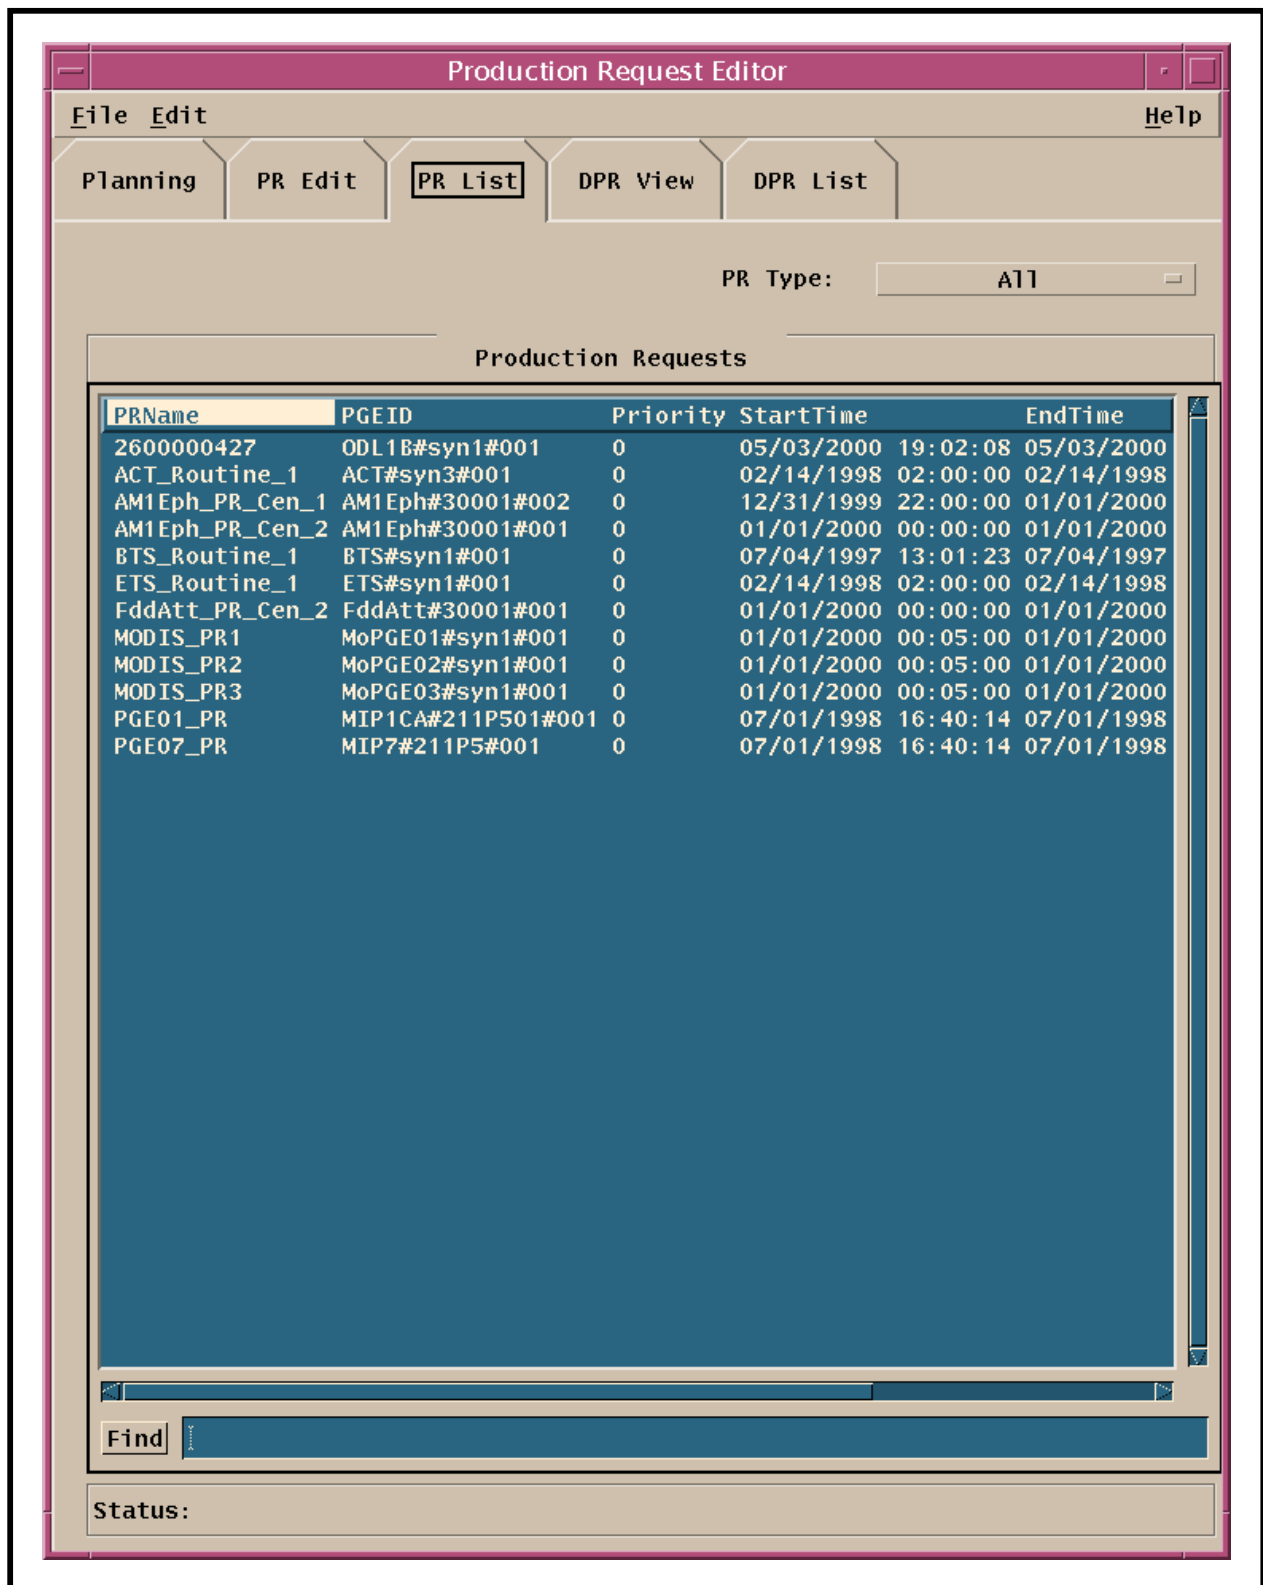

Figure 24. PR List GUI
- The **PR List** GUI page (Figure 24) is displayed.